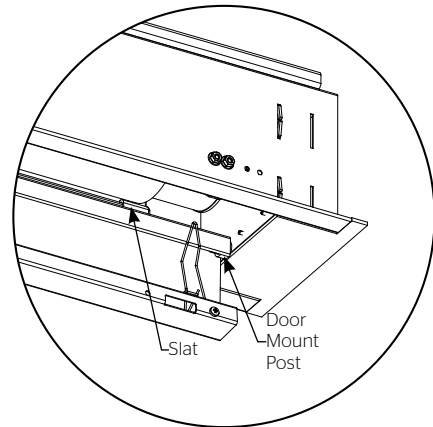
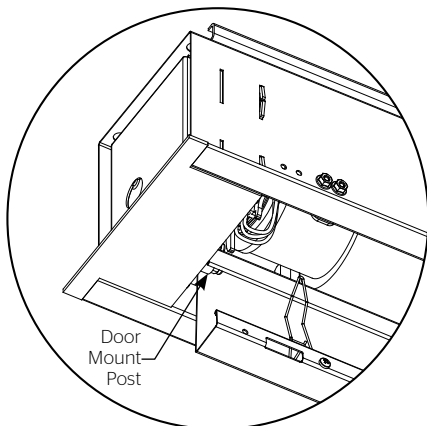

Figure 6
Figure 5
7. Install access door. Slide motor end of door onto mounting post (Figure 5). Lift up slat on pin end side and hook door onto pin end mounting post (Figure 6).